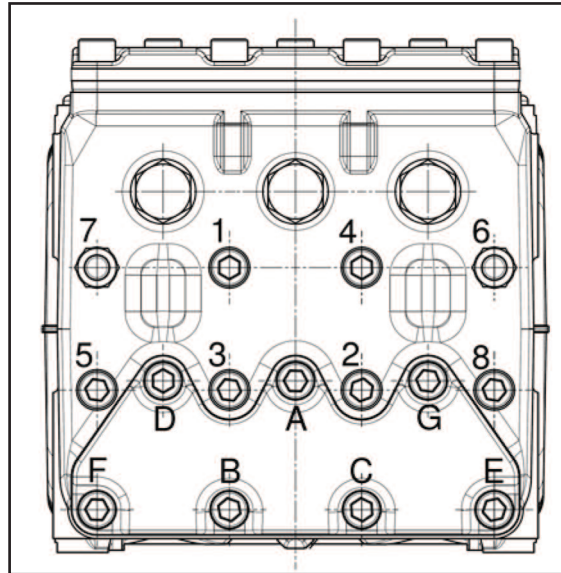

fig. 21
- ** The head screws and nuts, exploded view position 45 and 48, must be fastened using a torque wrench, lubricating the threaded stem, respecting the order shown in the scheme in fig. 21
- *** The valve cover screws, exploded position 29, must be fastened using a torque wrench, lubricating the threaded stem, respecting the order shown in the schematic in fig. 21.